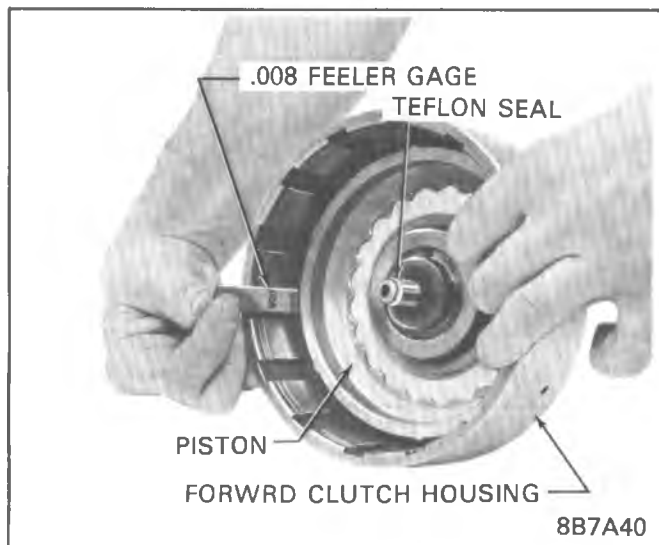

Figure 7A3-99 Installing Clutch Piston
3. Install spring retainer and springs. Compress spring retainer with an arbor press or ram press. See Figure 7A3-92.